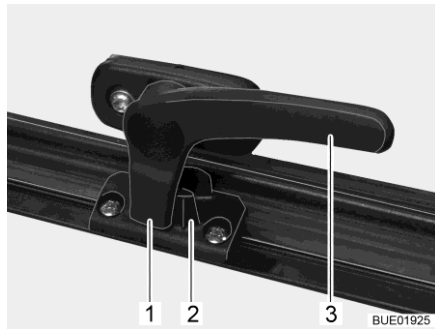

Fig. 11 Catch lever in "closed" position
- Turn the catch lever (Fig. 11,3) a quarter turn towards the centre of the window.
- Turn the catch lever (Fig. 11,3) a quarter turn towards the window frame. The locking catch (Fig. 11,1) is located on the inside of the window catch (Fig. 11,2).
- "Firmly closed" (Fig. 11).